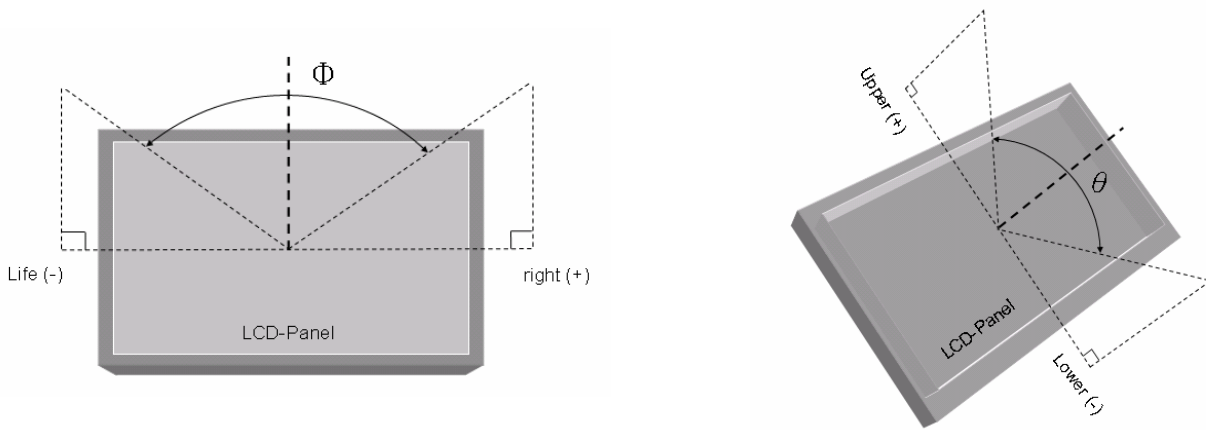

Fig.2 Definition of Viewing Angle
*3) Definition of Viewing Angle (θ, ψ), refer to Fig.2 as below :